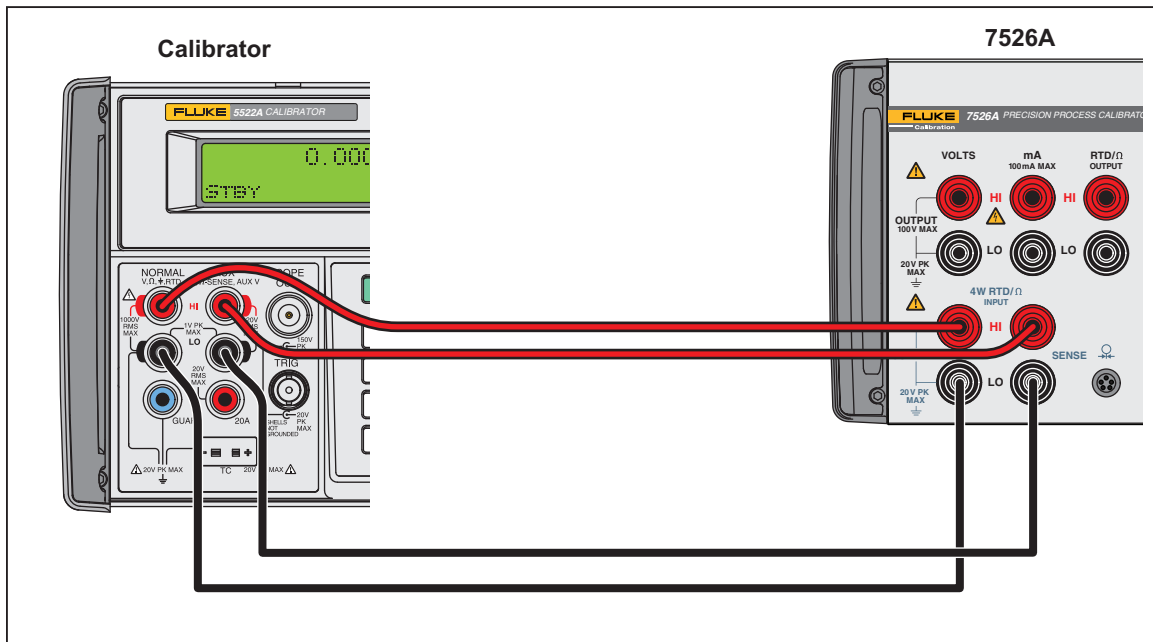

Figure 8. Ohms Measurement Performance Test Connections
3. For the second test, connect the Product 4W RTD/ Ω input to the output of the 5522A as shown in Figure 8.